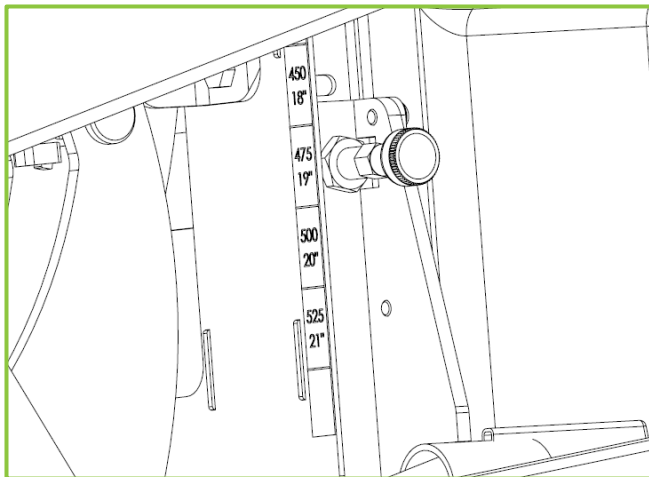

Figure 17
4. Pull and hold the caps of the two plungers to release the footplate height frame and move the footplate to the desired height measurement. The footplate height measurement can be read off the scale located at the rear of the legrest (Fig 17).